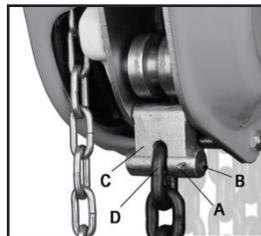

FIG 10
Remove old load chain as follows while referring to FIG 10:
1. Position the load chain sprocket (E) by rotating hand chain wheel (F) so that the wide and narrow grooves show.
3. Rotate hand chain wheel so that load chain falls six to eight inches at back of sprocket. Referring to FIG 10:
4. Insert one end of chain link (D) into chain anchor (C).
5. Insert pin stopper (B) through chain anchor (C) and chain link (D) and secure with split pin (A).